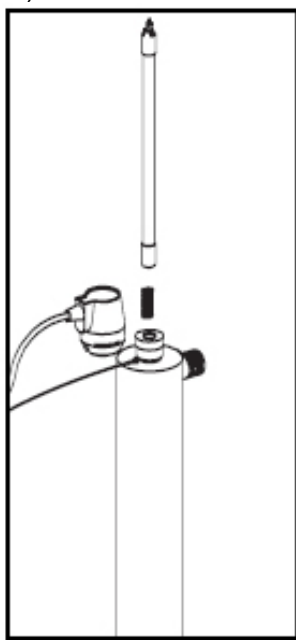

FIGURE 3
4. Carefully insert the lamp into the reactor vessel (inside the quartz sleeve). Leave about two inches of lamp protruding from the chamber (Figure 3).